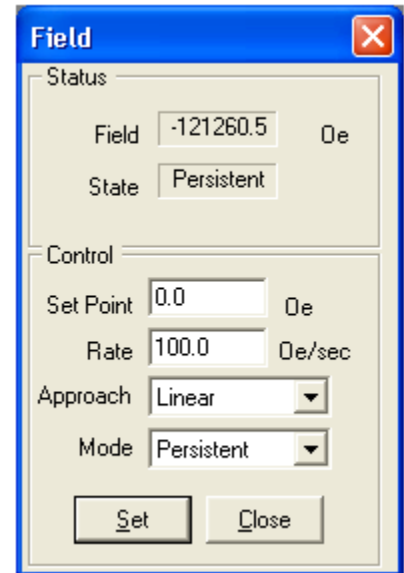

Figure 1 PPMS[®]
2. If the magnetic field is not in **Persistent** mode and at zero (0) Oe, reset it according to the sequence below:
- a. Select **Instrument >> Field** (Figure 1).
- b. In the **Field** dialog box, set the **Mode** to **Persistent** and the **Set Point** to zero (0) Oe.